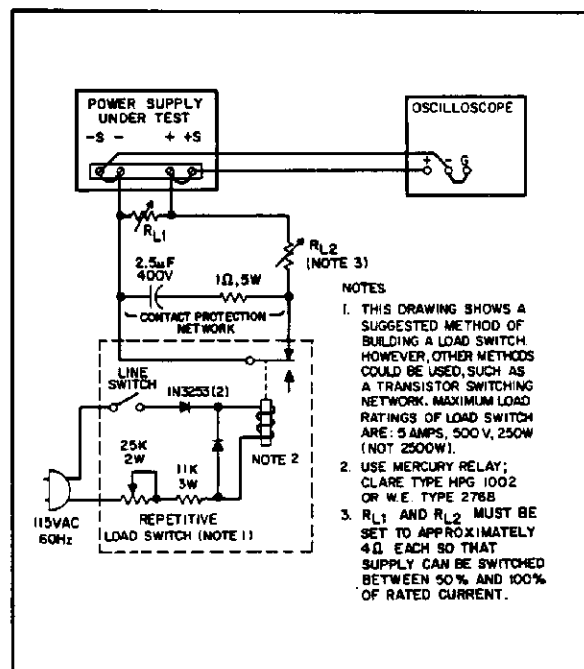

Figure 5-4. Load Transient Recovery Time, Test Setup
**5-33** We suggest that a mercury-wetted relay connected in the load switching circuit shown in Figure 5-4 be used for loading and unloading the supply. When this load switch is connected to a 60Hz ac input, the mercury-wetted relay opens and closes 60 times per second. The 25k control adjusts the duty cycle of the load current switching to reduce jitter in the oscilloscope display. This relay may also be used with a 50Hz ac input. The load resistance shown in Figure 5-4 is the minimum resistance that can be used without damaging the mercury-wetted relay contacts.
- Connect load resistor  $R_{L1}$  (Figure 5-4) across output of supply. Do not connect  $R_{L2}$  and load switch at this time.
- Turn off supply and connect load switch and load resistors as indicated in Figure 5-4.